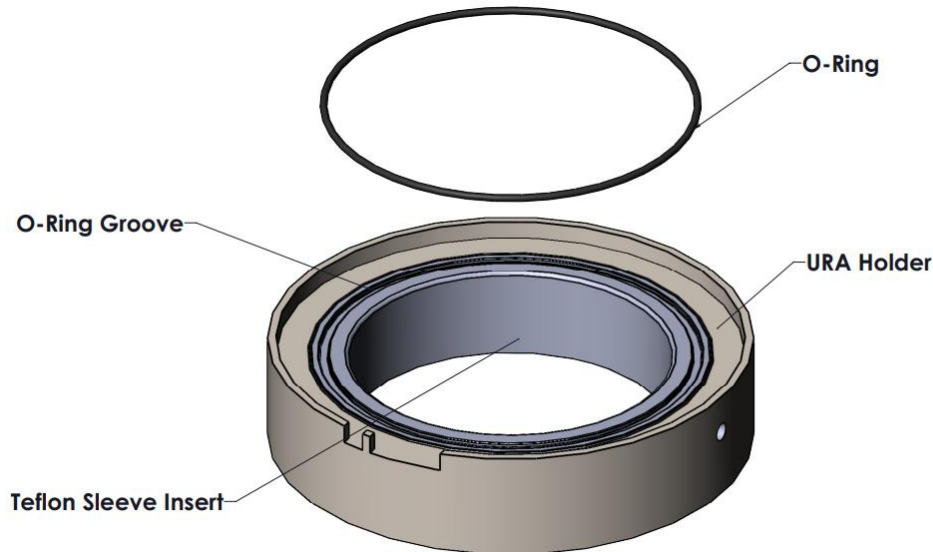

Figure 1. URA Holder with Teflon Sleeve Insert
- i) For "insert" type URAI holders, fasten the assembly together by reinstalling the pre-assembly tabs and screws as shown in figure 1. The pre-assembly screws should be snug, NOT wrench-tight.
- (5) Figure 1 displays a teflon sleeved holder. Teflon sintered holders are similar except they do not have a sleeve.